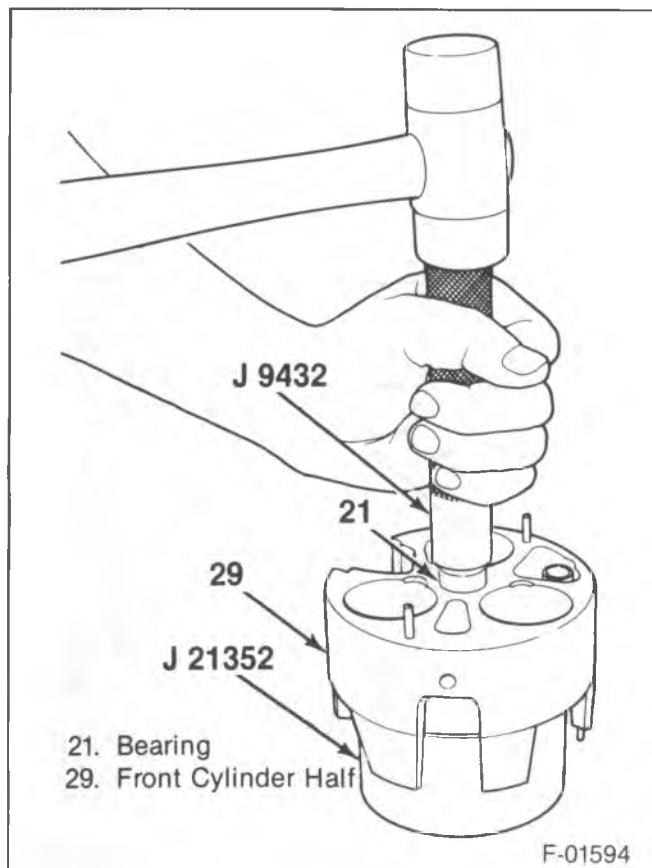
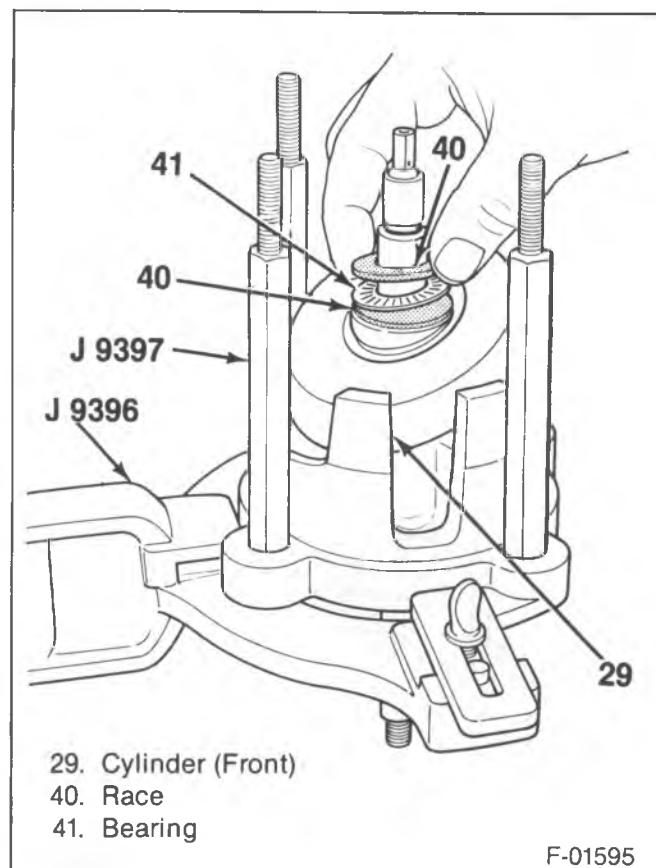

Figure 27—Installing the Needle Bearing
Figure 28—Installing the Rear Thrust Races and Bearing
Install or Connect (Figures 27 through 31)
1. Needle bearing (21) to the front cylinder (29) with J 9432 (figure 27).
- Support the cylinder half (29) on J 21352-A.
- Insert needle bearing (21).
- Insert J 9432 into the hub end (inner side) of the cylinder head (29) and drive the needle bearing into the cylinder.
- Remove cylinder half (29) from J 21352-A.
3. The front cylinder half (29) in J 9397 flat side down.
- The front cylinder half (29) has a long slot extending out from the shaft hole. The "legs" of the front cylinder half (29) will point upward.
4. "Zero" thrust race (27), thrust bearing (28) and "zero" thrust race (27) to the front end of the shaft (39) (figure 28).
- Lubricate the races (27) and the bearing (28) with petroleum jelly.
5. Threaded end of the shaft (39) through the needle bearing (21) in the front cylinder half (29) and allow the thrust race (27) and bearing (28) to rest on the hub of the cylinder.
6. Insert a thrust race on the rear end of the shaft (39) so that it rests on the hub of the axial plate.